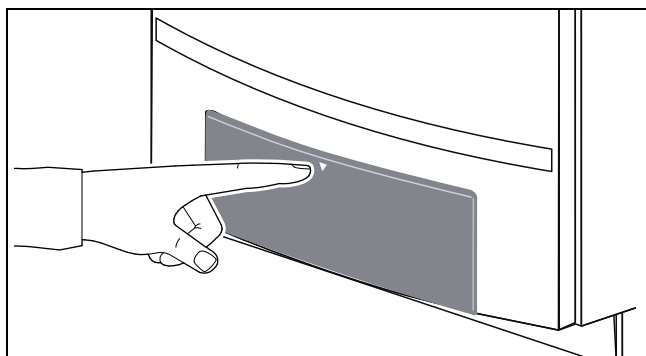
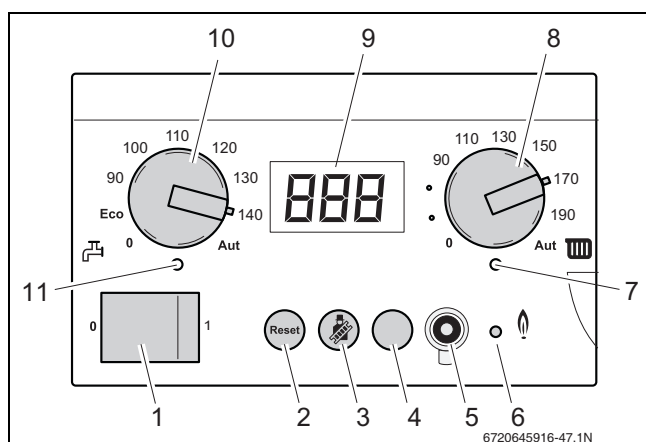

Fig. 50 Opening the control panel
Fig. 51 BC10 basic controller
- Push on the control panel (→ fig. 50) to get access to the BC10 basic controller (→ fig. 51).
"Main power switch" (→ fig. 51, [1])
"Reset" button (→ fig. 51, [2])
"Chimney sweep" button (→ fig. 51, [3])
"Service" button (→ fig. 51, [4])
Service Tool connection (→ fig. 51, [5])
LED "Burner operation" (→ fig. 51, [6])
LED "Central heat demand" (→ fig. 51, [7])
Space heating water temperature knob (→ fig. 51, [8])
Display (→ fig. 51, [9])
DHW temperature knob (→ fig. 51, [10])
LED “DHW demand” (→ fig. 51, [11])
You can navigate through the menu structure of the boiler on the BC10 using the “Reset” button, the “Chimney sweep” button, the “Service button” (→ fig. 51, [2, 3 and 4]) and the display (→ fig. 51, [9]).